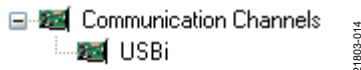

Figure 14. Adding a **USBi** Component From **Communication Channels**
4. Add a **USB Interface** block (the **USBi**) to the project by clicking **USBi** from the **Communication Channels** subsection of the **Tree Toolbox** (see Figure 14), and then dragging it to the project space.